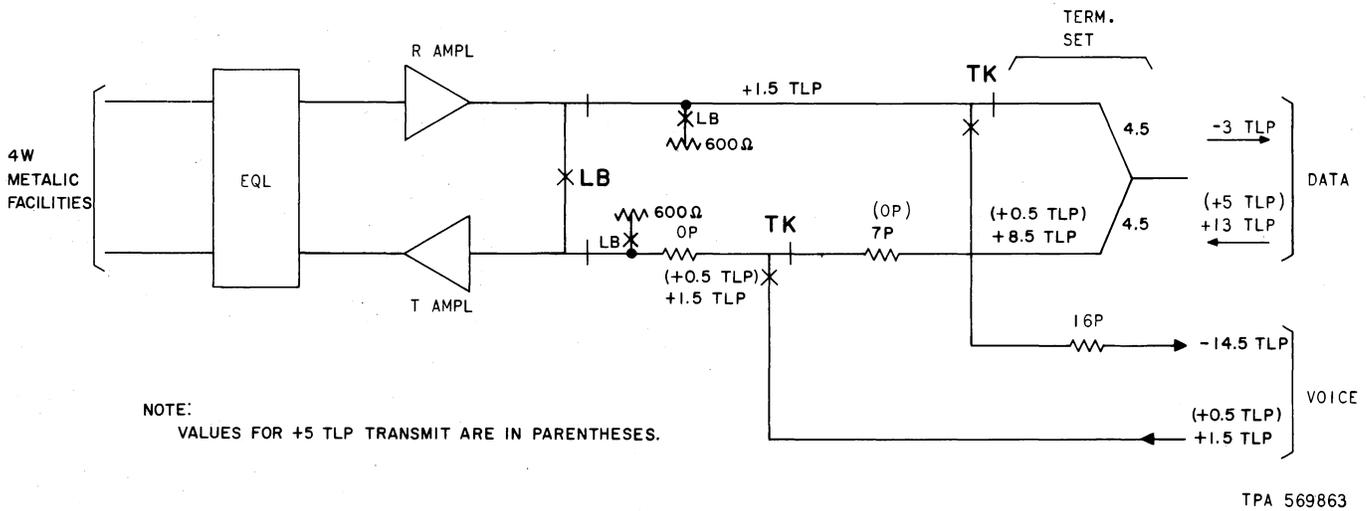

Fig. 18—Circuit Design for Data/Voice With 600-Ohm 2-wire Modem
4.06 Figure 18 shows a special case where the standard voice design rules cannot be met with the DAS as it is wired. For this case the voice levels are redefined. This causes a slight degradation in the signal-to-noise ratio through the